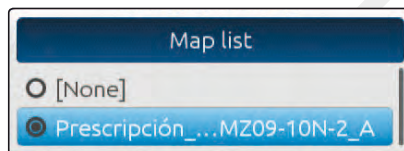

Fig. 238
- Select a map from the list (Fig. 238).